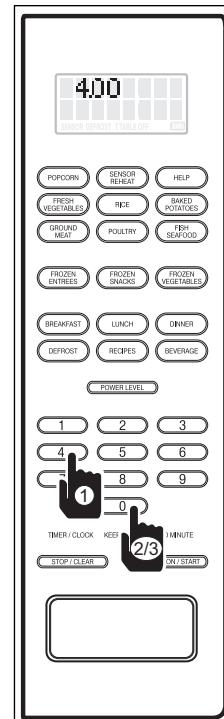

Figure 3-28.
1. Enter desired cooking time duration. For example: 4 minutes; press the number 4 key, then the number 0 key twice (See Figure 3-28), and the display will flash “4.00 - PRESS START - OR PRESS - POWER LEVEL”.